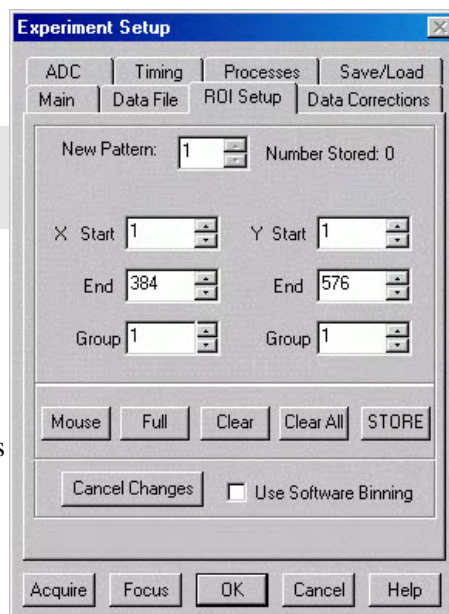

Figure 92. ROI Setup tab page
A Region of Interest (ROI) may be the entire CCD array or it may be a rectangular subregion of the array. For data acquisition, the definition of such a region is done from the ROI Setup tab page (Figure 92), accessible after selecting Experiment Setup from the Acquisition menu. Easy Bin is a simple way of defining a single full chip width ROI. ROI Setup allows you to create multiple ROIs with greater flexibility in ROI location and width.
1. Open the **Experiment Setup** dialog and click on the ROI Setup tab to open the **ROI Setup** tab page (Figure 92).